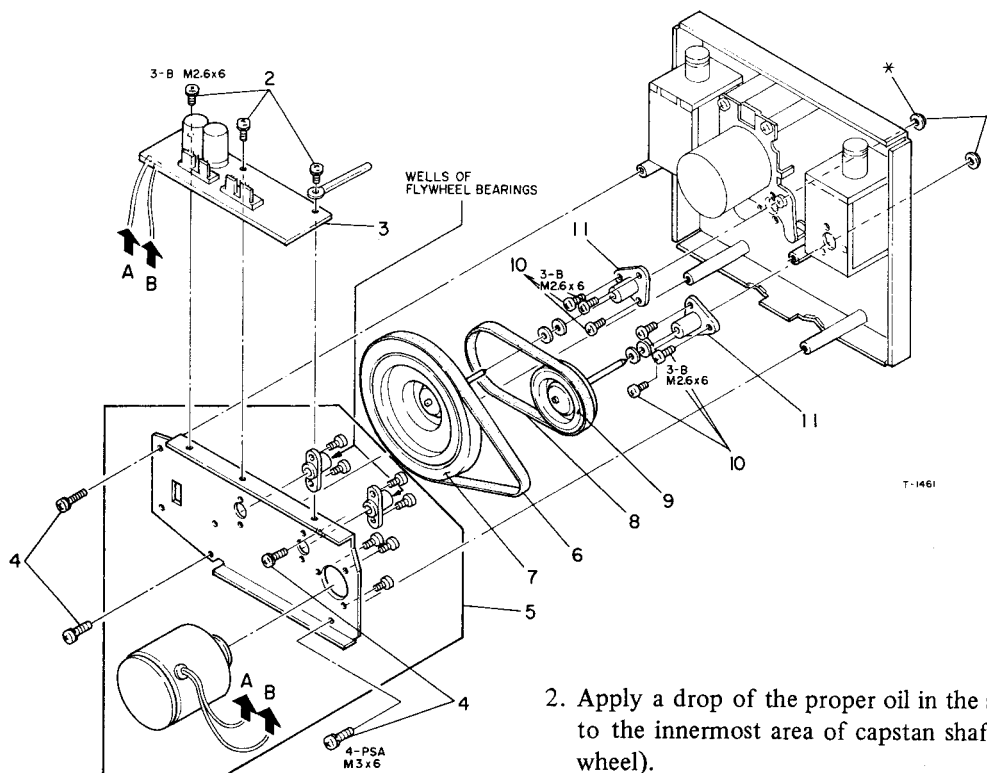

Fig. 4-6 Capstan Motor and Capstan Drive Ass'y
3. Apply a film of light grease to the well of the flywheel bearing (See Fig. 4-6).
4. Fig. 4-6, 1, 4, 5, 6, 7, 8, 9.
3. Fig. 4-6, 1 (marked * only), 4, 5, 6, 7, 8.